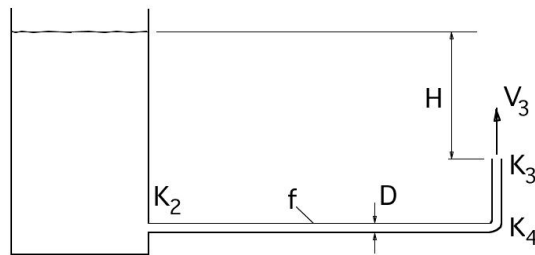

Figure P8.47
8.47 Water of density ρ flows from a large tank through a pipe of diameter D , length L , and friction factor f , as shown in Figure P8.47. K_2 and K_3 are the loss coefficients for the entry and exit, respectively, and towards the end of the pipe there is one bend with a loss coefficient of K_4 . The flow in the pipe is turbulent. The exit from the pipe is a distance H below the level of the water in the tank.